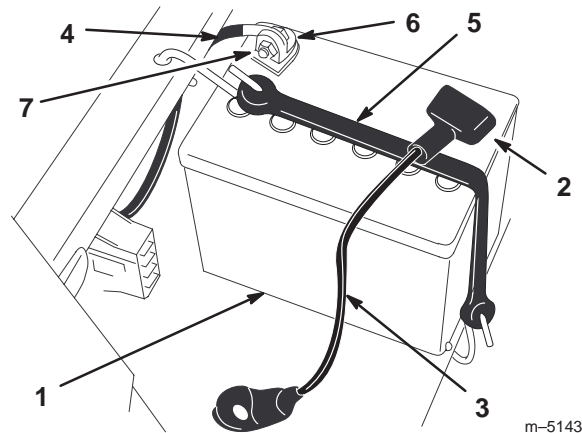

Figure 32
3. Disconnect the negative (black) ground cable from the battery post (Fig. 32).
4. Slide the rubber cover up the positive (red) cable. Disconnect the positive (red) cable from the battery post (Fig. 32).
5. Remove the battery hold-down (Fig. 32) and lift the battery from the battery tray.
1. Position the battery in the tray with the terminal posts away from the control panel (Fig. 32).
4. Secure the cables with 2 bolts (1/4 x 3/4 inch), washers (1/4 inch), and nuts (1/4 inch) (Fig. 32).
6. Secure the battery with the hold-down (Fig. 32).